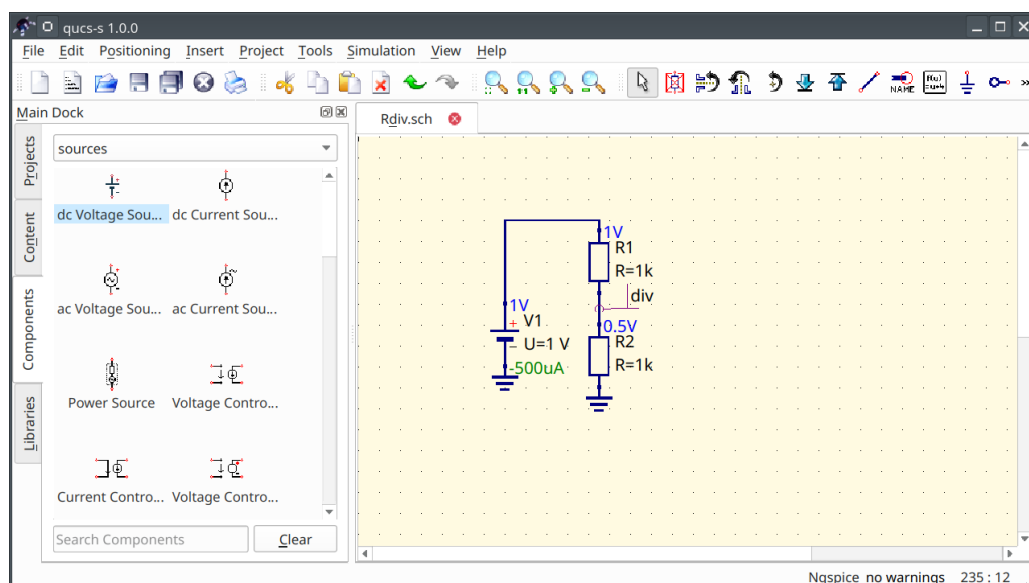

Figure 11: Operating point simulation of the voltage divider
- Show operating point directly on the circuit. This mode is activated when pressing F8 keyboard shortcut or using *Simulation-Show bias* menu entry. See the Fig. 11 for example of such simulation.